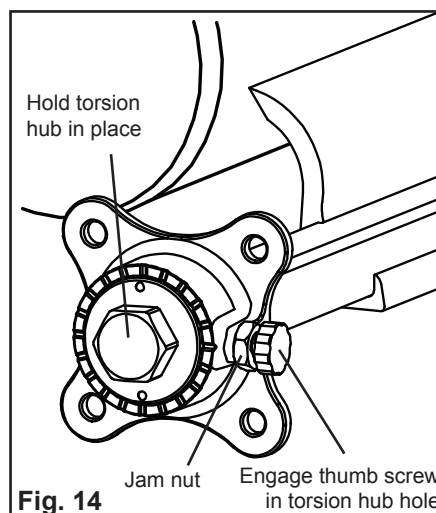

Fig. 14
21. While holding Torsion Hub in tension pre-set position, tighten thumb screw ensuring that the location pin engages into Torsion Hub hole (Fig. 14).
24. When desired tension is achieved, tighten thumb screw and jam nut (Fig. 14).